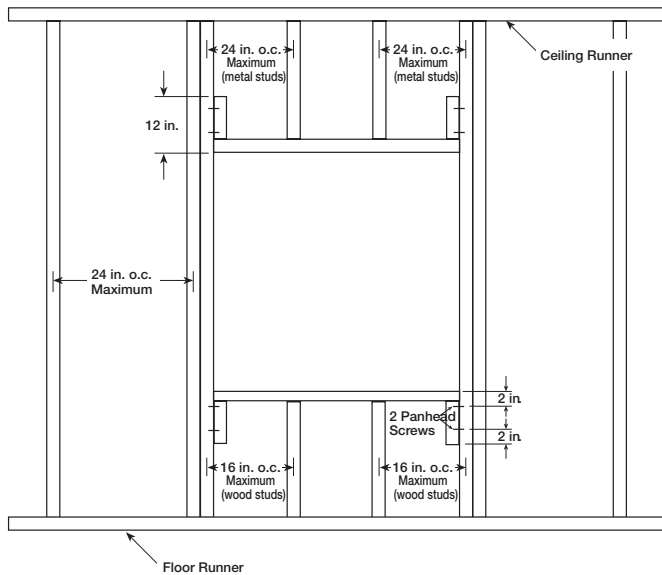

Figure 1
- Frame wall openings as shown below (see **Figure 1, 2, & 2A**).